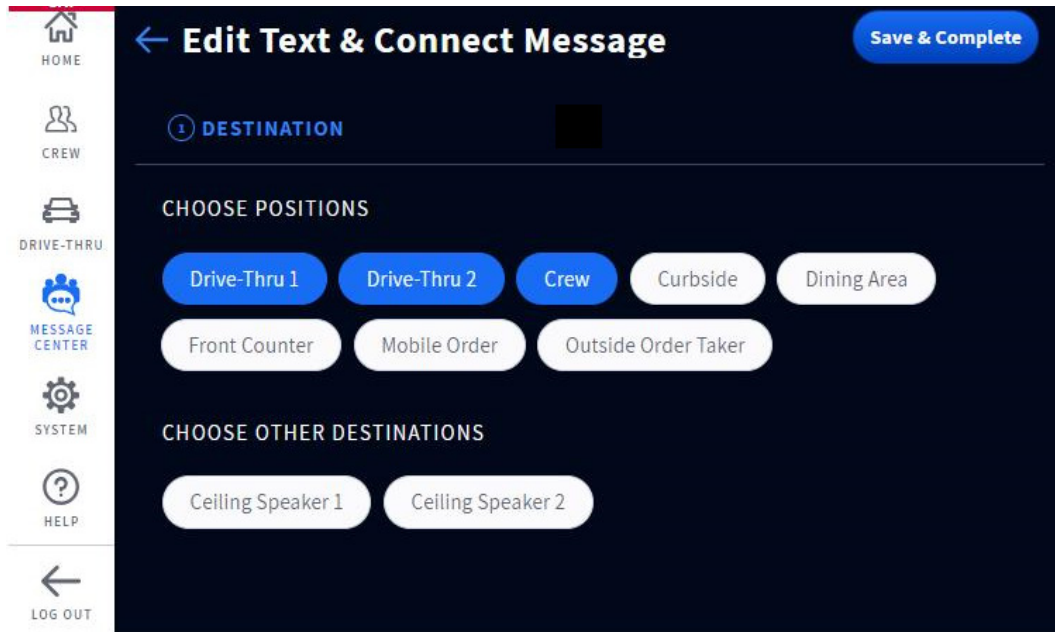

Fig. 8.10
3. This opens the Edit Text & Connect Message page (Fig. 8.10). Choose the crew positions listed to target a specific group of headset users by tapping on it. The selected positions change to blue. (Tap any blue selection again to deselect it.)
- For example, Fig. 8.10 shows Drive-Thru 1, Drive-Thru 2, and Crew selected. So, only these three headset groups will receive messages sent with the Text & Connect feature.